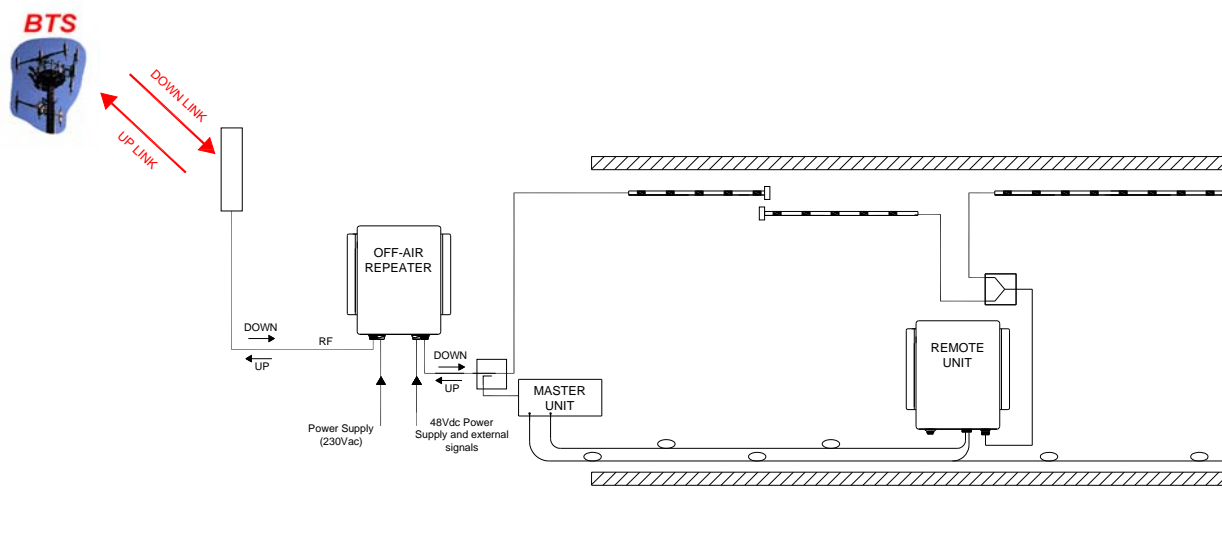

FIGURE 6
- b) By an Off-Air Repeater connected to master unit and optical remote units with amplification steps of no more than 1200mt. each. The optical fiber system extends the signal through an antenna or a passive distribution system (Figure 6).